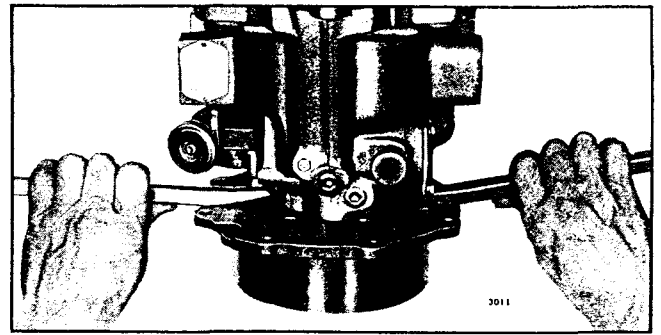

Fig. 15 - Removing Reduction Gear Input Gear and Bearing Assembly from Reverse Gear Housing (1.5:1)
- c. Place two pinch bars diametrically opposite each other, between the adaptor and the rear face of the gear housing as shown in Fig. 15, and pry the input gear bearing out of the gear housing. Then slide the adaptor assembly straight off of the